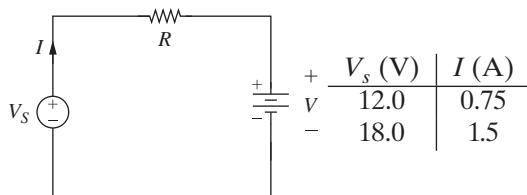

Figure P1.18 Single-loop circuit for problem P1-18.
- 1-18.** A voltage source V_s is used to apply two different voltages (12 V and 18 V) to the single-loop circuit shown in Fig. P1.18. The values of the measured current are shown in Fig. P1.18. The voltage and current satisfy the linear relation $V_s = IR + V$, where R is the resistance in ohms, I is the current in amps, and V_s is the voltage in volts.
- Using the data given in Fig. P1.18, find the equation of the line for V_s as a function of I , and determine the values of R and V .